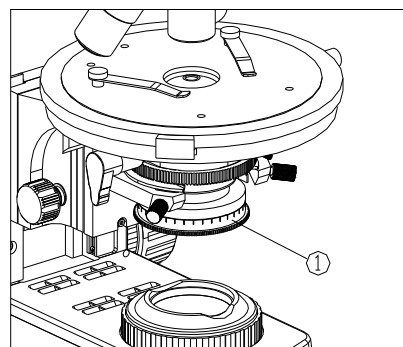

Fig.30
(1) Turn the polarizer adjusting ring ①, to adjust the vibrated direction of the polarizer which is 360° rotatable. When observed orthogonally, the “0” reticle on adjusting ring should be leveled with the reticle on the base. (See Fig. 30)